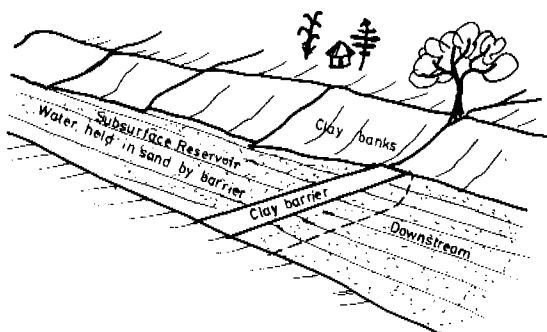

Fig. 13 Earth Subsurface Dam
- a) The easiest and cheapest method is to construct a clay or other non-porous barrier across the riverbed, which rests on the solid bedrock of the watercourse (see Fig. 13).